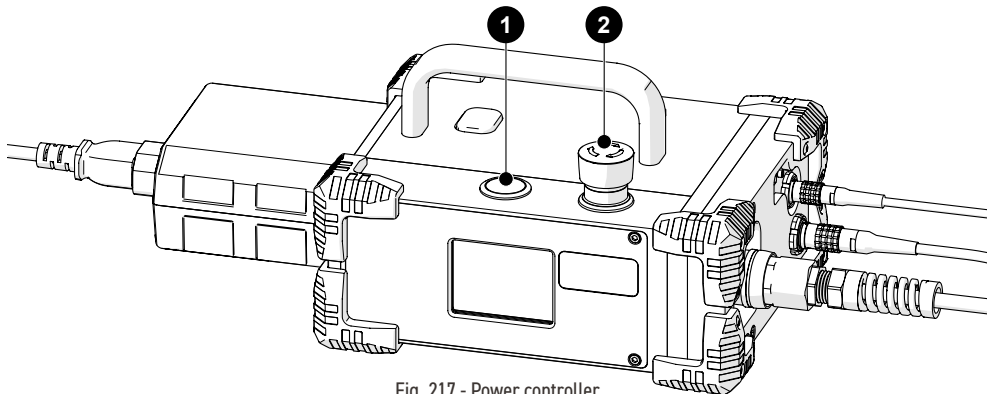

Fig. 217 - Power controller
3. Locate the **2** red emergency stop push-button on the power controller. Rotate this button clockwise to unlatch (Fig. 217).
4. The **1** power button (Fig. 217) on the power controller activates the system.